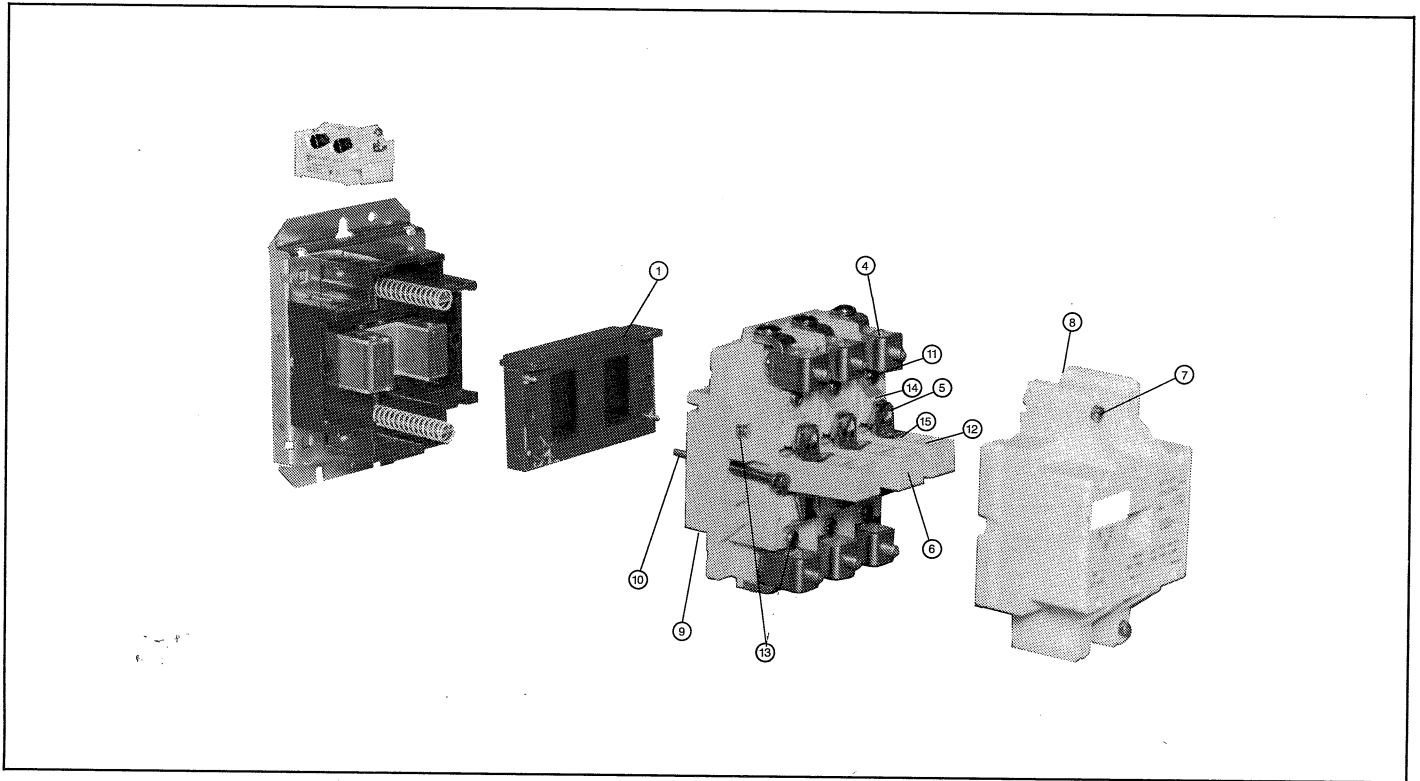

Fig. 7 Size 4 Contactor (Exploded View)
Refer to Figure 7. Loosen the two arc box assembly screws (7) located immediately above and below the nameplate and remove the arc box (8). Contacts (5) are visible. Retighten the screws per Table VI.
Refer to Figure 7. Loosen the assembly screws (10) located to the immediate left and right of the arc box. Remove connector straps to the overload relay. Pull the